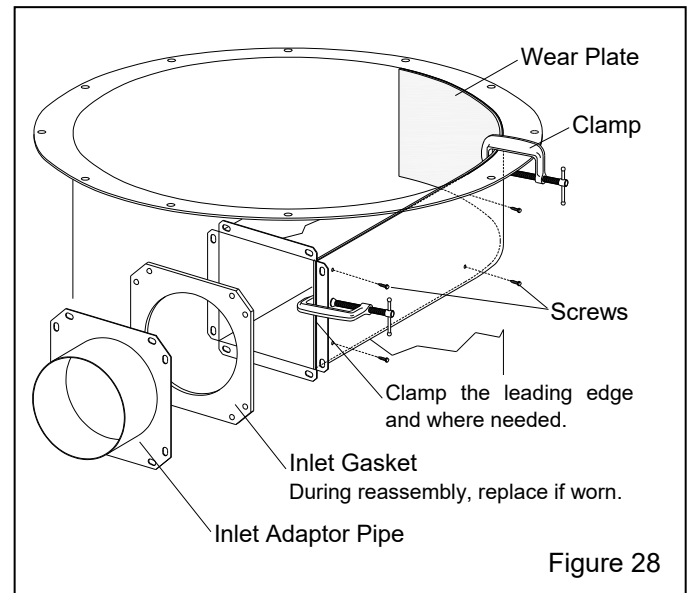

Figure 28
7.8.2 Reclaimer with bolt-on, removable top 600 cfm and 900 cfm – Figure 28